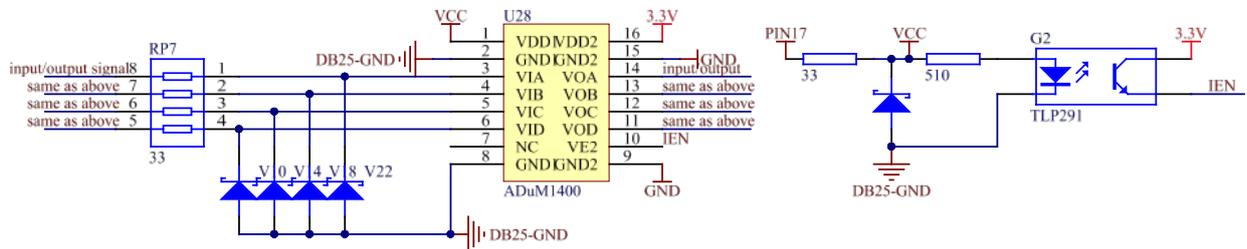

Figure 8. Schematic of input and output signals.
- 8) I/O connection of digital signal: the supply current of input signals are less than 10mA, and the supply current of output signals are less than 3 mA. The connection circuit of input and output signals is shown in Fig. 8.